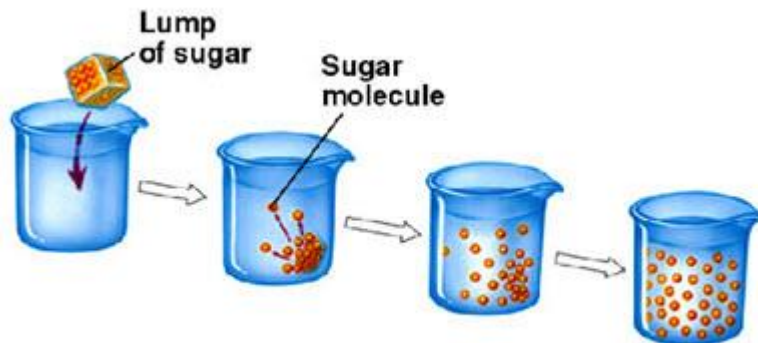

Figure 2
- **within a medium** for example sugar dissolves in a cup of tea to sweeten the entire tea cup as shown in Figure 2.